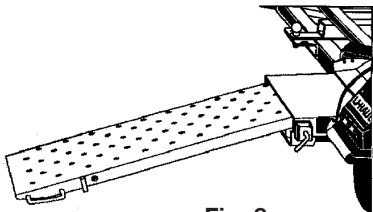

Fig. 8
- Continue pulling the ramp out until it stops, then lower it to the ground. (Fig. 8) Both ramps must be pulled out completely to properly load the vehicle-in-tow without damaging the tow dolly or the vehicle-in-tow.